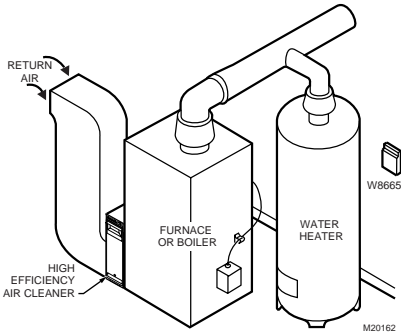

Fig. 1. W8665 mounting location
3. Mount the W8665 RF Receiver Module near the HVAC equipment on a wall. See Fig. 1.